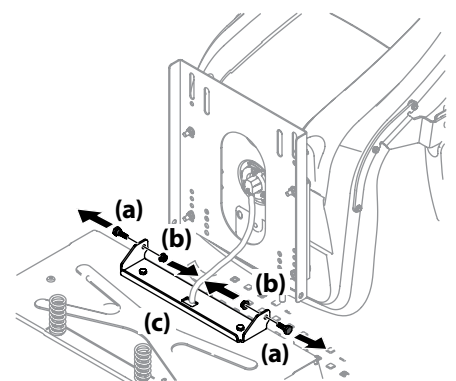

Figure 2-3
- Remove the two shoulder screws (a) and flange lock nuts (b) in the seat bracket (c) as shown in Figure 2-3.